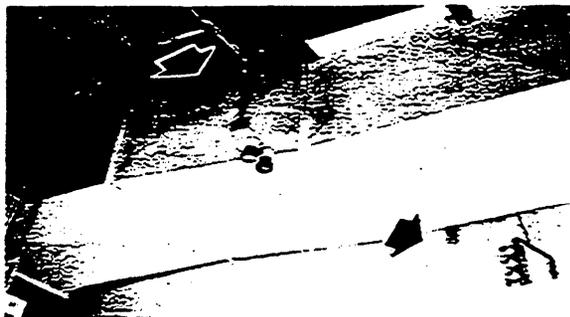

Figure 1. View of Floor Pilot Lamps (Lower Right) and section Pilot Lamps (Center).
1.06 Floor pilot lamps (white) indicate the floor on which the trouble occurred (See Fig. 1.) In a single story office, this lamp would not be provided. The lamp is usually wall mounted.
1.07 A section pilot lamp (red or green) indicates the specific section of the floor at which the trouble occurred. (See Fig. 1.) In the larger switchrooms, there are several section lamps to a floor. The lamps are usually mounted on or near one of the walls.